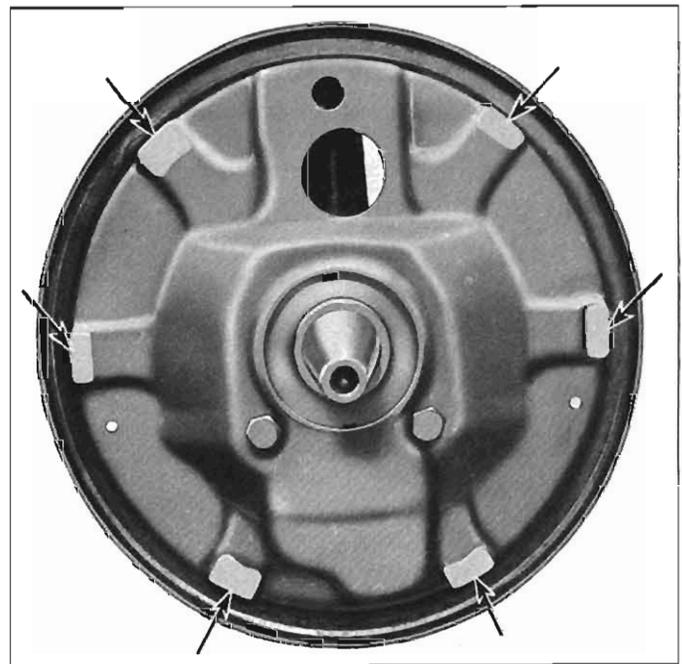

Fig. 5-10 Backing Plate Contact Faces
14. Pry shoes away from backing plate and lubricate shoe contact surfaces with a thin coating of brake lube (fig. 5-10).